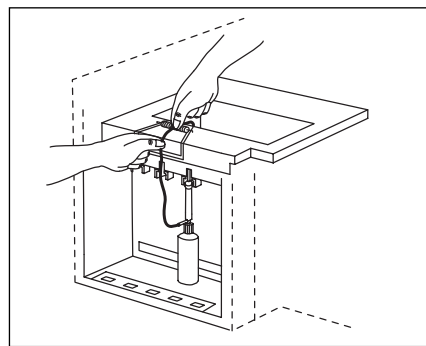

Figure 5.13
7. Feed tubing up into the tubing guide (Figure 5.13).